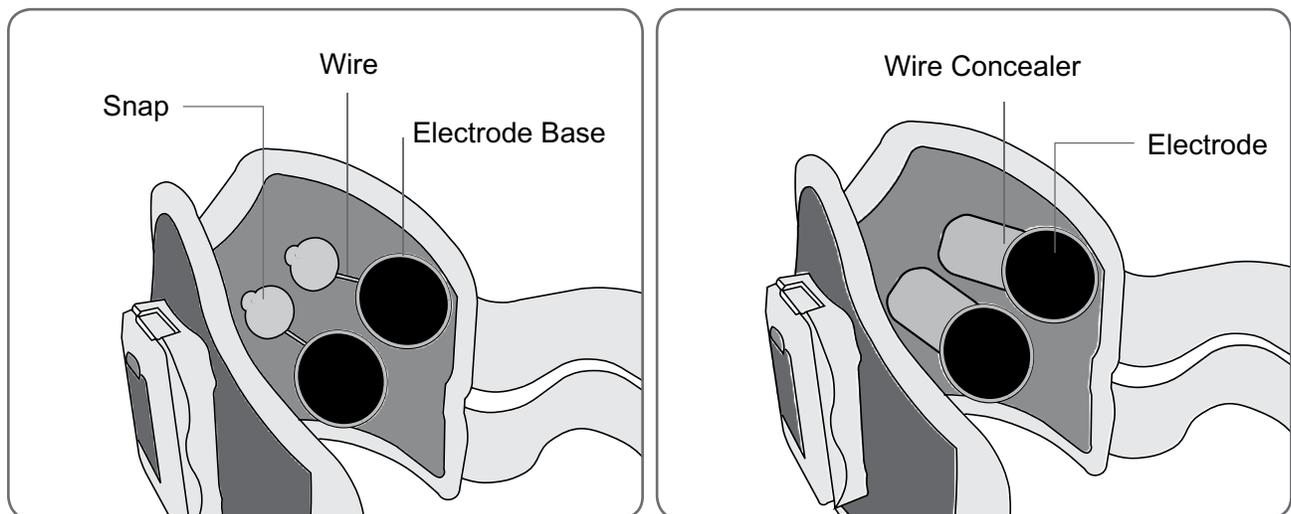

Figure 10-16: Regular L300 FS Cuff without (left) and with (right) wire concealers.
5. If appropriate, cover the electrode base wires and snaps with the wire concealers. See Figure 10-16. Make sure the wires are tucked under the wire concealers.